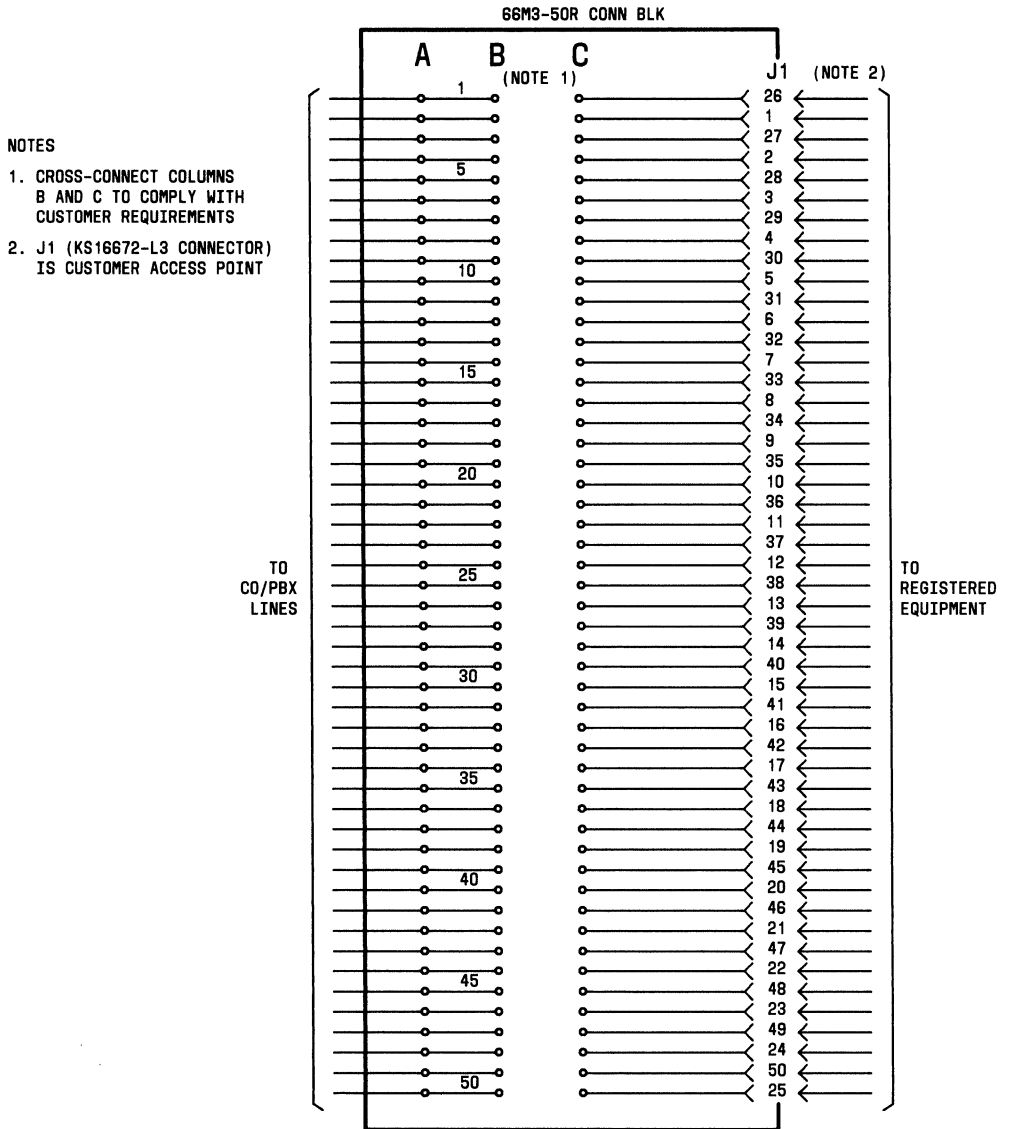

Fig. 2—66M3-50R Connecting Block Terminal Layout
3.05 Provide CO/PBX lines by placing appropriate CO/PBX feeder cable, D station or cross-connect wire, to selected column A terminals (Fig. 2 or 3).